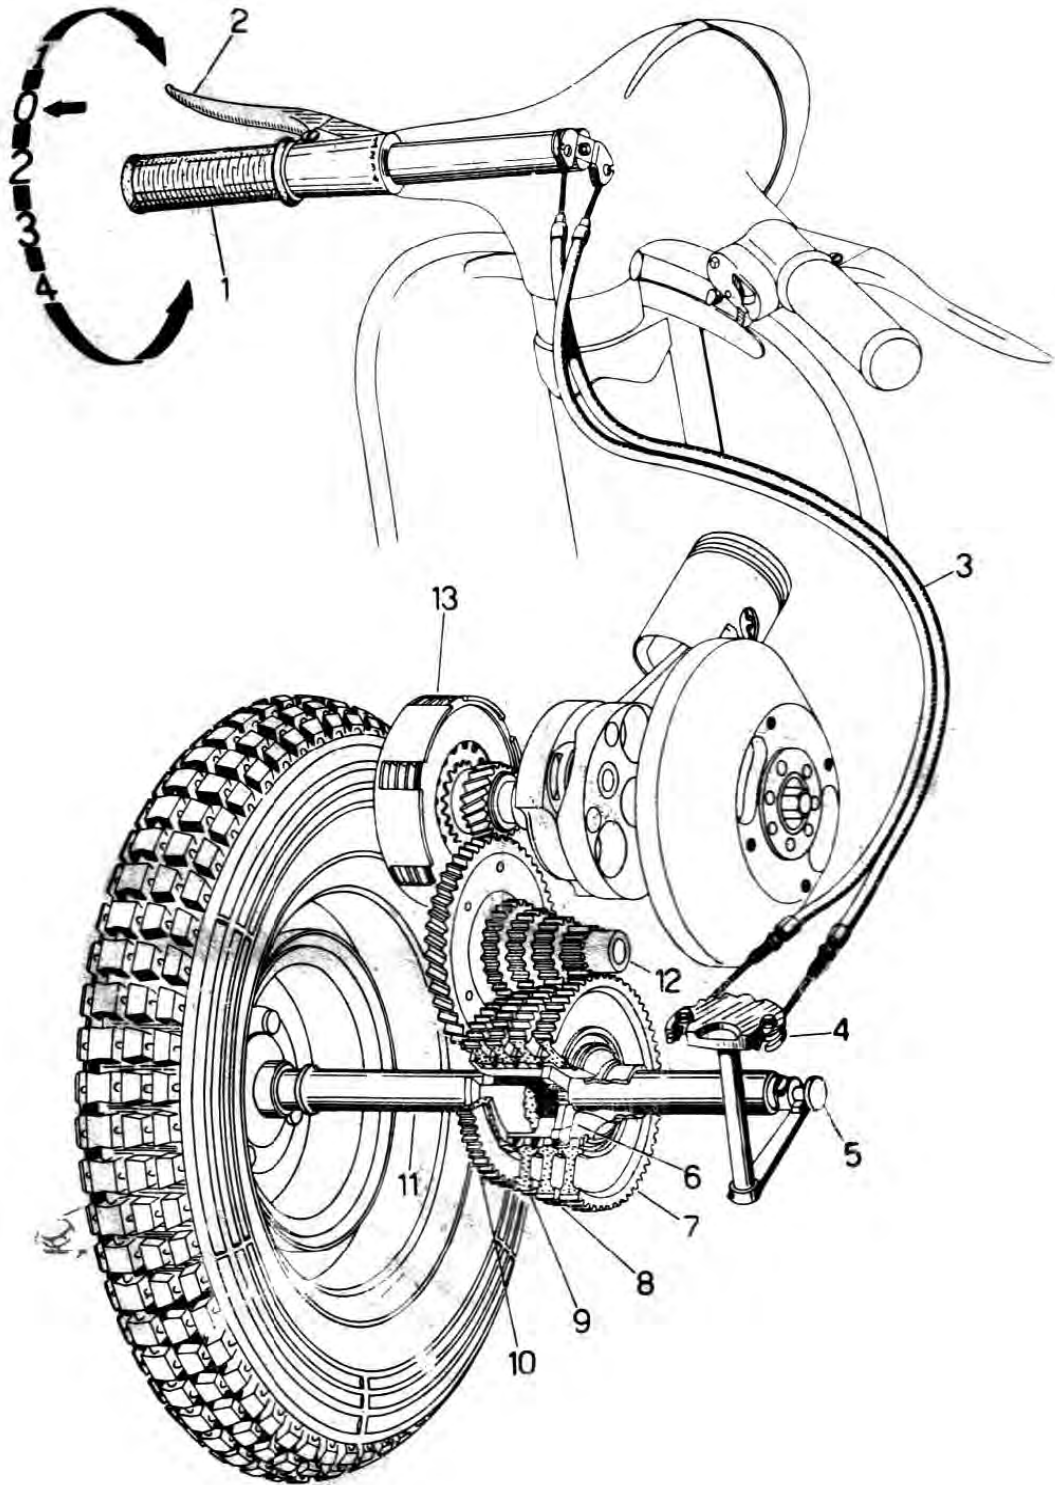

Fig. 16 - Drive system
**Setting the machine in motion.** Let the engine idle, lift the clutch and turn the gear change twist grip (L.H.) so that the line engraved on it coincides with the figure «1» (1st gear) engraved on handlebars (see Fig. 16). Now let in the clutch gently, while opening the throttle gradually to set the machine in motion.
**Gear change.** (See the drive system on Fig. 16.) After reaching some speed in 1st gear, quickly close the throttle, lift the clutch and turn the gear change twist grip so that the engraved line is opposite figure « 2 » (2nd gear). Now let in the clutch and open the throttle gently. Repeat this procedure for changing into 3rd and 4th gear and for changing down. When you reduce the speed of your machine, change down without delay.